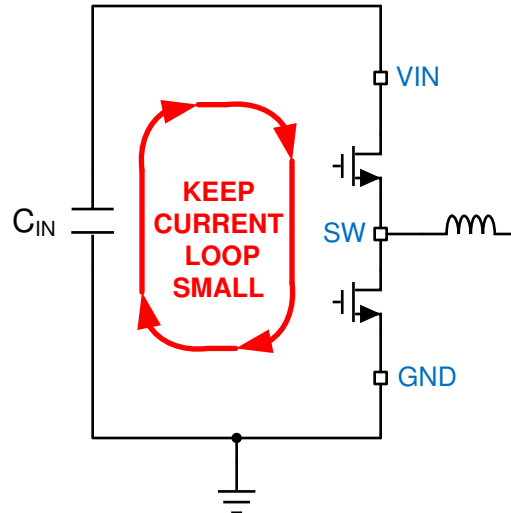
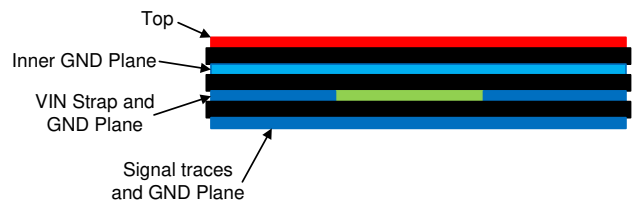

图 10-1. Current Loops with Fast Edges
图 10-3. Example Layout for VQFN Package
The PCB layout of any DC/DC converter is critical to the optimal performance of the design. Bad PCB layout can disrupt the operation of an otherwise good schematic design. Even if the converter regulates correctly, bad PCB layout can mean the difference between a robust design and one that cannot be mass produced. Furthermore, the EMI performance of the regulator is dependent on the PCB layout, to a great extent. In a buck converter, the most critical PCB feature is the loop formed by the input capacitor or input capacitors, and power ground, as shown in 图 10-1. This loop carries large transient currents that can cause large transient voltages when reacting with the trace inductance. These unwanted transient voltages will disrupt the proper operation of the converter. Because of this, the traces in this loop must be wide and short, and the loop area as small as possible to reduce the parasitic inductance. 图 10-2 and 图 10-3 show recommended layouts for the critical components of the LMR33620.
1. **Place the input capacitor or capacitors as close as possible to the VIN and GND terminals.** VIN and GND pins are adjacent, simplifying the input capacitor placement. With the VQFN package there are two VIN/PGND pairs on either side of the package. This provides for a symmetrical layout and helps minimize switching noise and EMI generation. A wide VIN plane must be used on a lower layer to connect both of the VIN pairs together to the input supply; see 图 10-3.